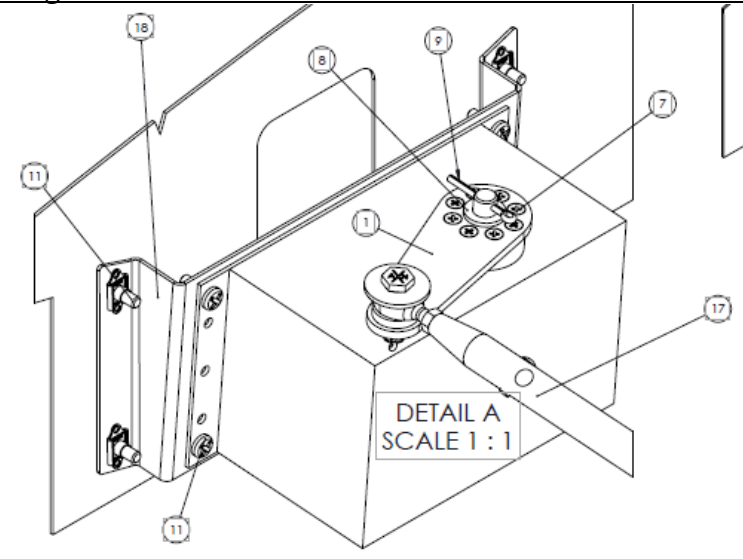

FIGURE 3-6 MOUNTING PLATE AND SERVO ASSEMBLY
20. Mount the servo, PN 30000000, to the servo mounting bracket as shown in Figure 3-6 using MS27039-0807 screws supplied.